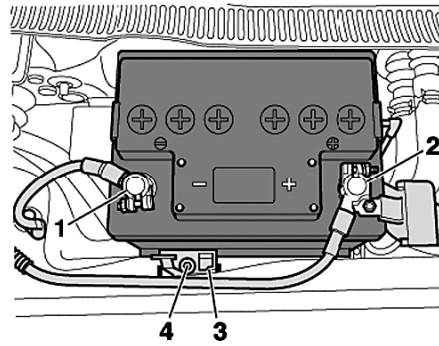

Fig. 2 Battery removal. Engine compartment
6. Disconnect ground cable (1) from battery, **Fig. 2**.
7. Disconnect positive cable (2) from battery, **Fig. 2**.
8. Remove bolt (4) from battery hold-down bracket (3), **Fig. 2**.